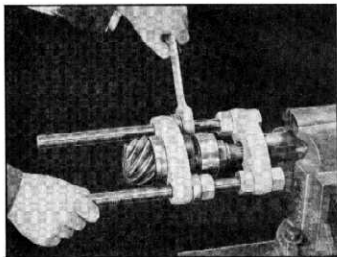

Fig. 11—Removing Pinion from Propeller Shaft Coupling
3. Install J-4548, propeller shaft and pinion assembly and replacer (fig. 11). Separate pinion assembly from propeller shaft.